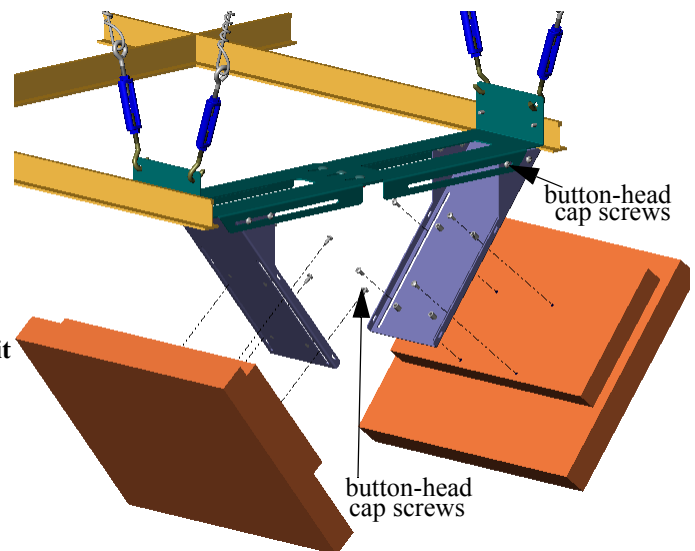

Figure 9. Flat Panel Display Installation
1. Install flat panel display on LCD mount brackets (20) and secure using four M4 X 10mm Phillips pan head screws (80) (see Figure 9).